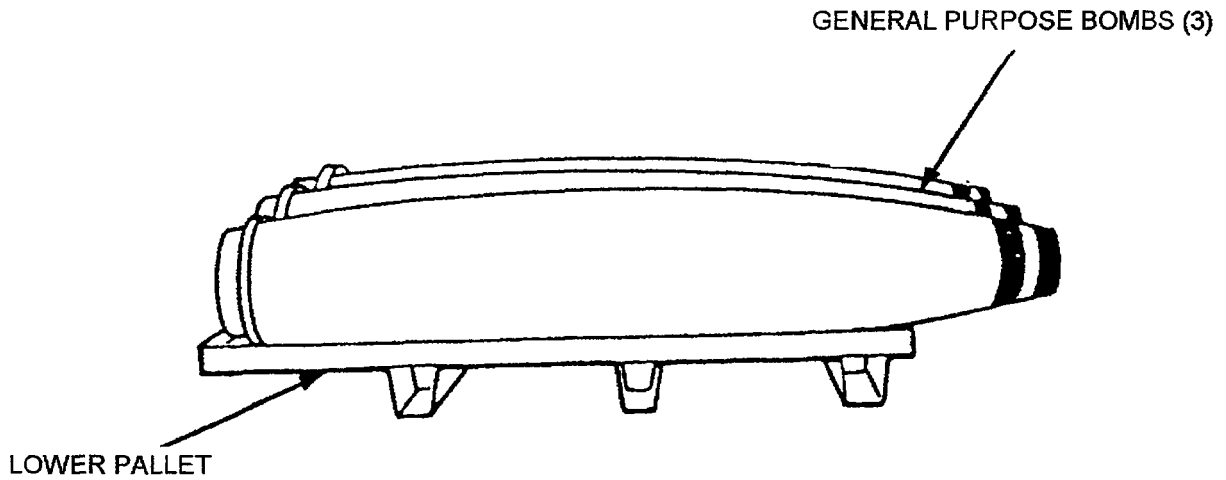

Figure 5-9E. Bomb Placement
- l. Place bombs on pallet as shown in Figure 5-9E.